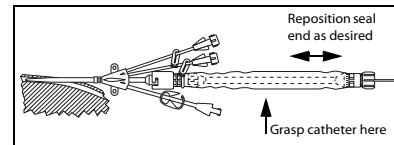

Fig. 13
23. Grasp insertion catheter through front portion of catheter contamination shield and hold in place while repositioning Tuohy-Borst adapter end as desired (refer to Fig. 13). **Precaution: Do not reposition Tuohy-Borst adapter end on insertion catheter once moved to this final position.**